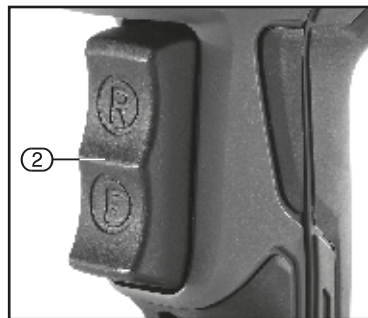

FIG.2
8.2 ROTATIONAL DRIVE SELECTION – FIG.2